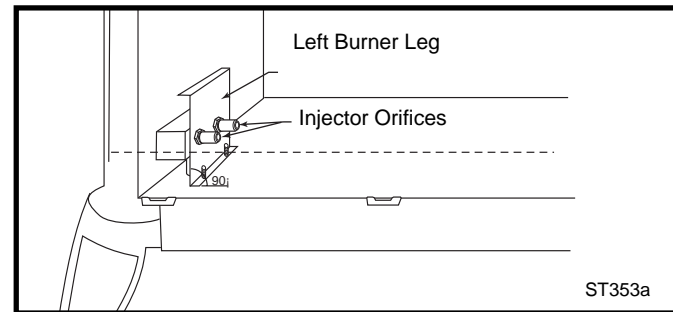

Fig. 35 Remove and replace injector orifices.
8. Remove injector orifices from left burner leg using 1/2" wrench. (Fig. 35)
- NOTE:** It is very critical to keep the left burner leg, which holds the injectors, at a 90° angel to the base. (Fig. 35) This keeps the orifices aligned with the tubes inside burner. Failure to do so could affect the flame appearance and performance of the unit.